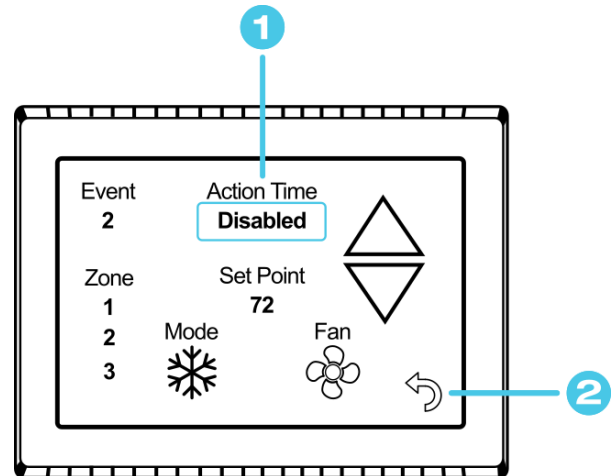
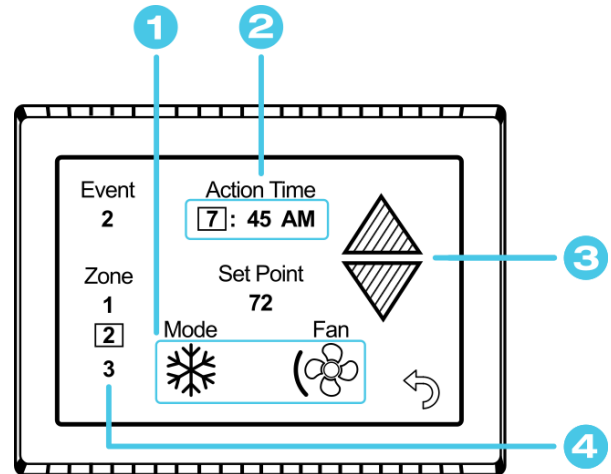

Figure 5 - Schedule Edit Screen (Disabled Event)
Figure 6 - Schedule Edit Screen (Enabled Event)
The schedule supports 7 day per week scheduling of events. Events can include changes to the set point or mode of operation for one or more zones. Each numbered row is an event that can be configured. *Figure 5* shows the main schedule screen. Tap the “Schedule” button from the *Settings Screens* to enter.
Figure 6 shows the edit screen when an event is tapped as shown in (8) *Scheduled Events* of *Figure 5 - Main Schedule Screen*. The event time on the main schedule screen and Action Time in the edit schedule screen will show disabled until a time is set. Tap “Disabled” (1) at the top of the screen to show a gray box around the Action Time to select it. The up and down arrows change to full color once a selection is made. Use the arrows to make a change to what is selected. Use the back arrow (2) to save any changes and leave the screen.
1. Tap the edit schedule button as described in the *Schedule – Edit, Enable or Disable* section in settings to enter the main schedule screen, shown by *Figure 5*.
2. Ensure that a valid (7) *System Time* is shown. Tap the day you want to set up a schedule for, then the event you want to edit, all shown by *Figure 5*. Tapping the event will take you to the edit schedule screen, shown by *Figure 6* and *Figure 7*.
5. Tap the back button once again to return to the settings screen. Activate the schedule by pressing the schedule button with the “Enabled/Disabled” subtext as described in the *Schedule – Edit, Enable or Disable* section in settings. When enabled, it may also be noted on the (11) *Info Screen*, under the *Main Screen*.